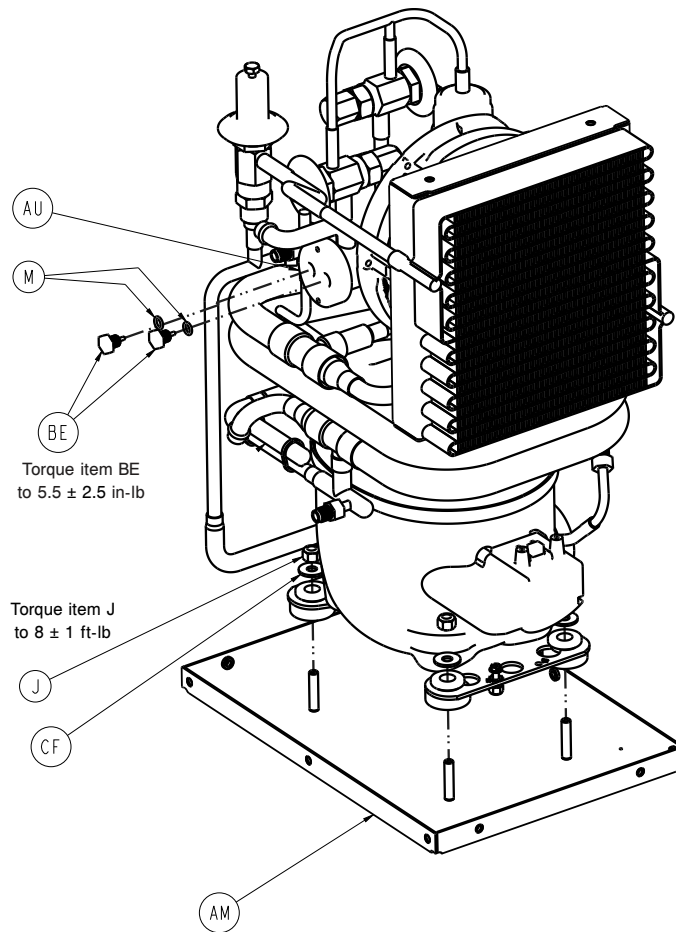

Figure 28 – Temperature probe
5. Using a utility knife remove the insulation around the heater well to gain access to either temperature probes (BE) (Figure 28).